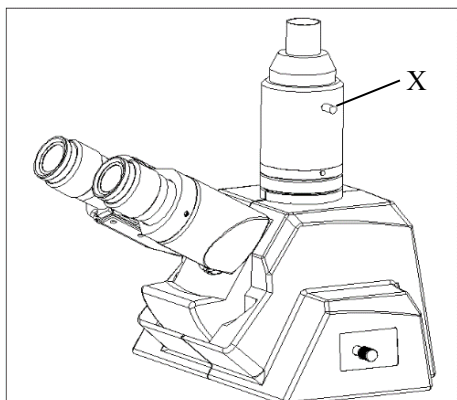

Figure 13
**4-2-11 Replace the camera interface (optional) (Figure 13 and 14)**
First, as shown in Figure 13, the screw at the serial number X is spun outwards in the direction of the arrow so that it no longer tops the camera interface, and then the camera interface is rotated out.